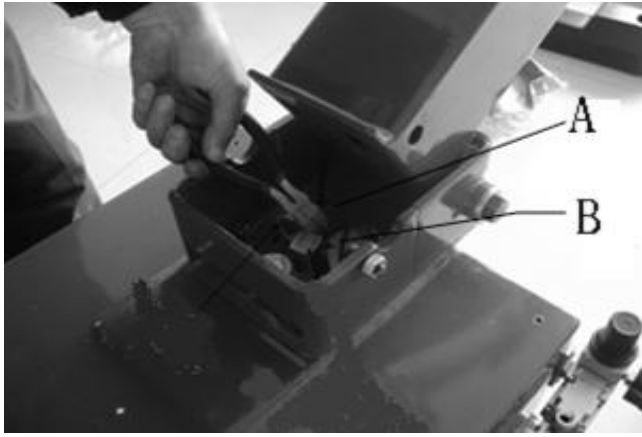

Fig 4-5
4.2.8 Tilt back the column. Cut up the tie belt between the retention level (Fig4-5 A) and put out cylinder piston rod (Fig4-5 B) .